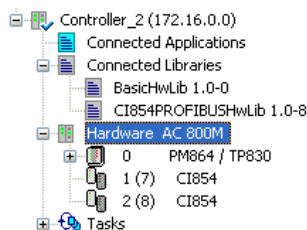

Figure 5. Redundant CI854A in HW-Tree
3. The icon changes to the redundancy icon and the text is updated with backup position within parenthesis (see Figure 5).